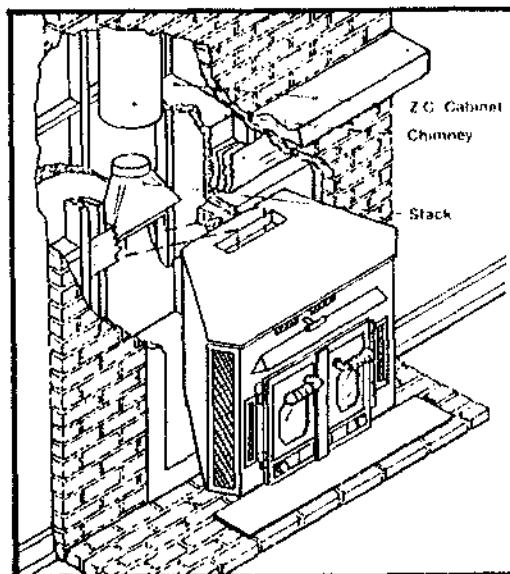

FIGURE 7 INSTALLING STACK TO CHIMNEY
- h. Turn stack positioning nuts counter-clockwise allowing stack to be lowered. Push downward and fit evenly until recessed within the stack opening (containing the damper.) Secure tightly with "T" clamps, bolts, and nuts provided. (See Figures 7 and 8). Ensure stack mates squarely, and gasket seals completely.